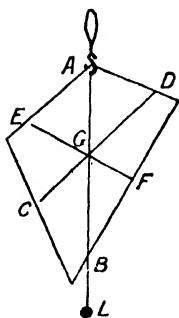

FIG. 36.
**EXERCISE 62.**—Suspend the cardboard or plate from any point near the edge, first making a small hole through which to pass a thread. Holding the edge of a half-metre scale against the thread support, which should be several inches long and forms a plumb-line or vertical line, continue the line of the supporting thread across the plate by drawing a vertical lead pencil line, or a small weight or lead bob **L** may be hung on a thread as a plumb-line. Repeat the process using another point of support, and where the two vertical lines cross each other is the centre of gravity **G** (Fig. 36). Test this by experiment, balancing the plate or card upon the point of a pencil touching the point found as the centre of gravity. It will be found that the card or plate balances about this point.